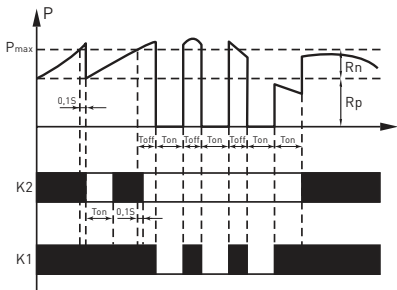
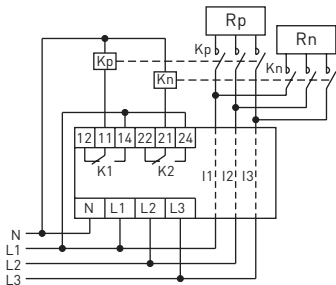

Figure 1. Power limiter operation with priority load
Figure 2. Wiring diagram
The load is divided into two groups: priority load R_p , which should preferably stay energized, and non-priority load R_n . In the event of overload, R_n is switched off immediately. If this clears the overload, R_n will stay switched off, and R_p will stay switched on. If the overload persists, R_p turns off after a set time delay T_{off} . When the total power consumption falls below the maximum power limit, R_p will be switched on after a set time delay (T_{on}), then, after the same time delay, the load R_n will be switched on. For operation diagram, refer to Figure 1. For wiring diagram, refer to Figure 2. Advantages: priority load is not immediately disconnected from the supply, total consumer load can be higher than total available power supply. For proper functioning, R_n should not exceed 25% of the total load.
- Connect the neutral wire to terminal N and the phase wires to terminals L 1, L2, L3. Connect contactors to terminals 12, 11, 14, 22, 21, 24 as per supplied selected wiring diagram (Figures 2 & 3).